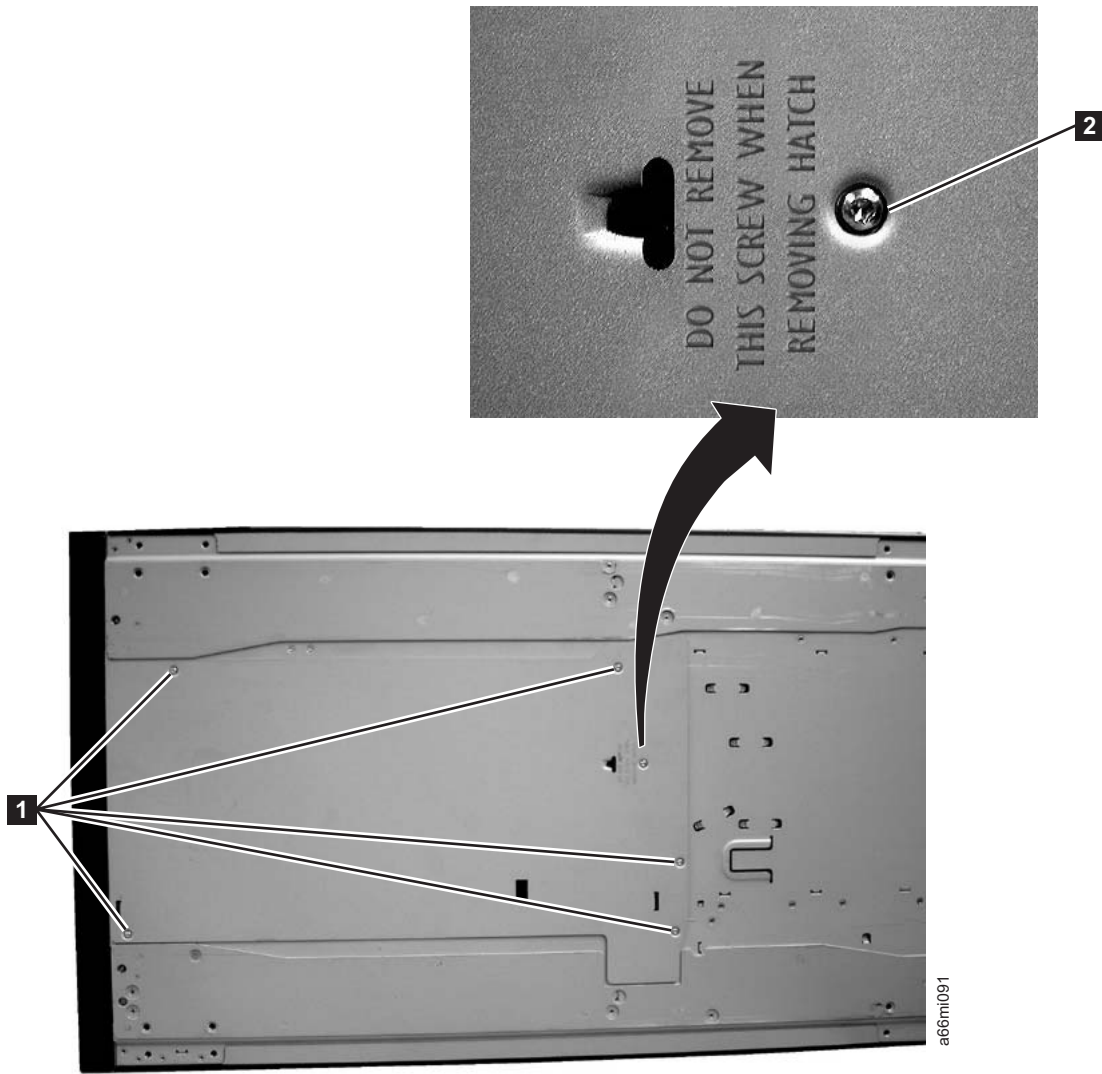

Figure 3-8. Bottom cover of the 5U control module
2. Turn the 5U control module on its side and remove the 5 - T10 Torx bottom cover screws (**1** in Figure 3-8 on page 3-8).
Important: DO NOT loosen or remove the screw that holds the home sensor (**2** in Figure 3-8 on page 3-8). This screw has the same T10 Torx head as the cover screws, but it is longer and has a coarse thread for screwing into the plastic home sensor.